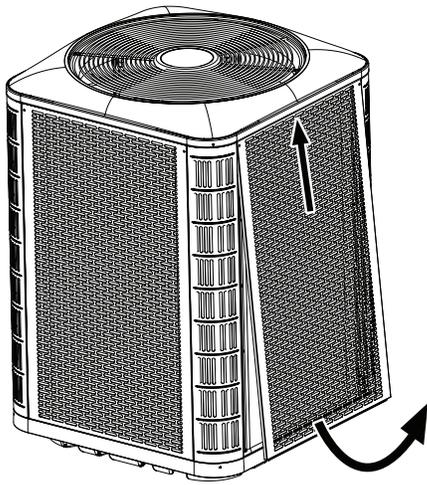

Figure 4. Panel Removal
2. Slide the panel up towards the top pan in order to clear the bottom flange from the base pan. See Figure 4, (page 8).